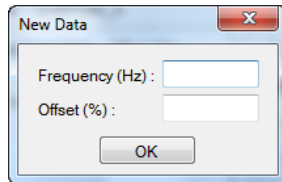

Figure 2-74 New Data dialog
- 6 Select **Insert** to add a new frequency point. Insert the desired frequency point and offset in the New Data dialog as shown in Figure 2-74.